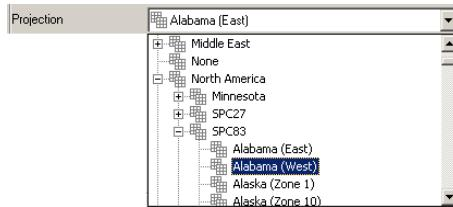

Figure 3-43. Projection List
- the Projection type (Figure 3-43).